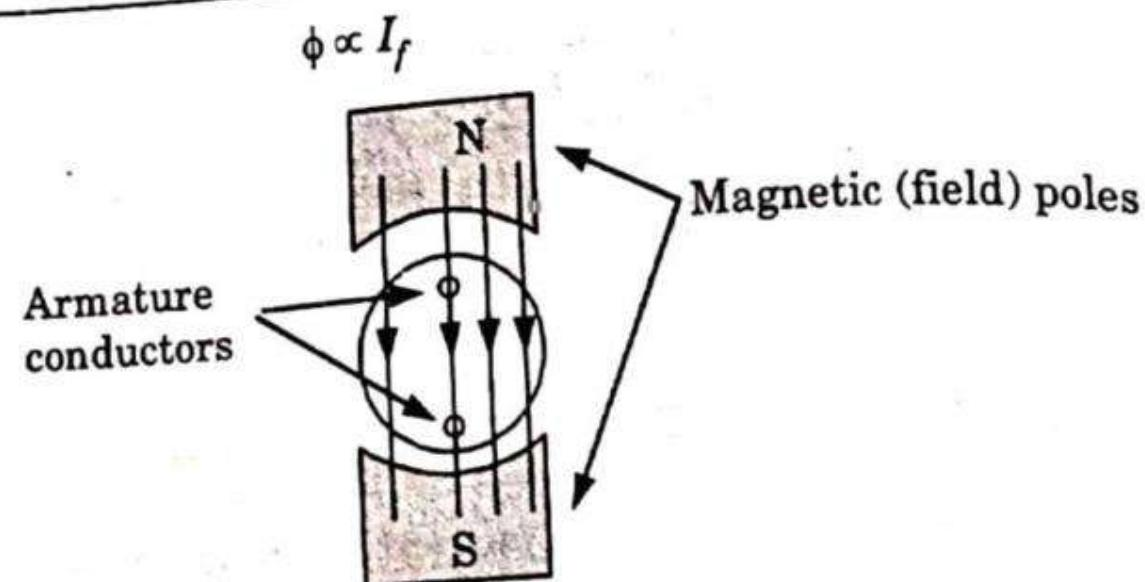

Fig. 4.1.1.
2. Consider elementary generator as shown in Fig. 4.1.1.